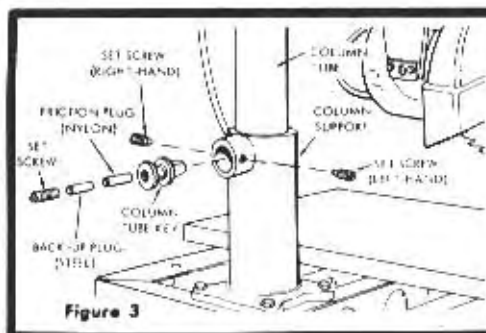

Figure 3
Before attempting to adjust the column tube key, the function of this adjustment should be understood. Figure 3 is an exploded view of column tube key parts, and
a. Loosen set screw in center of column tube key. (See figures 3 and 4.)